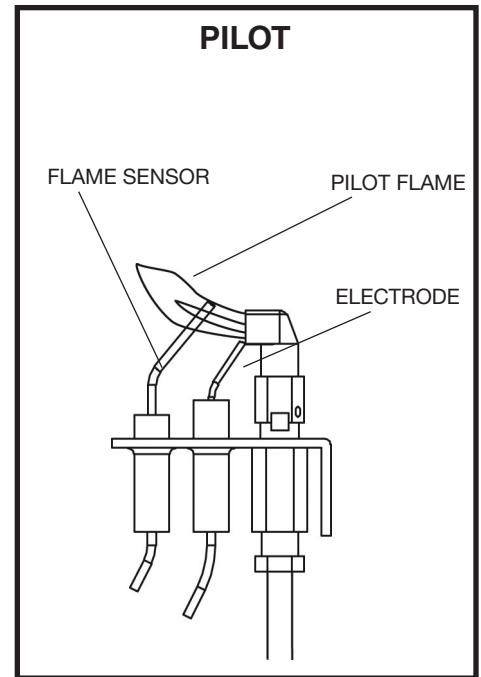

Figure 59: Pilot assembly.
- Check the pilot system for proper flame size and operation. Clean pilot free of soot, dust or any other deposits. (Figure 59)